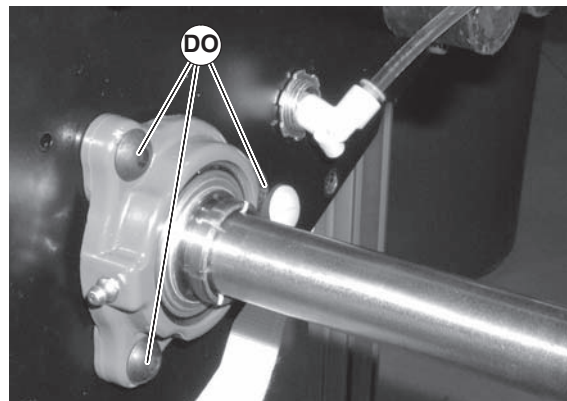

Figure 108
6. Tighten three (3) mounting screws (Figure 108, item DO) to 200 in-lbs (22.5 N-m).